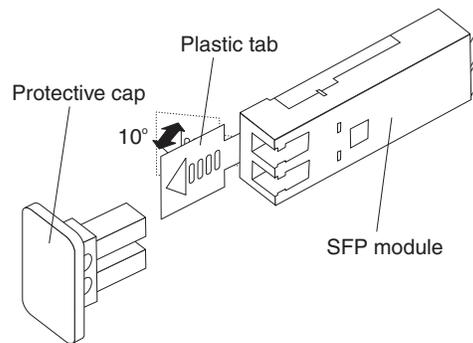

Figure 61. Unlocking the SFP module latch - plastic variety
- For SFP modules that contain plastic tabs, unlock the SFP module latch by pulling the plastic tab outward 10°, as shown in Figure 61.